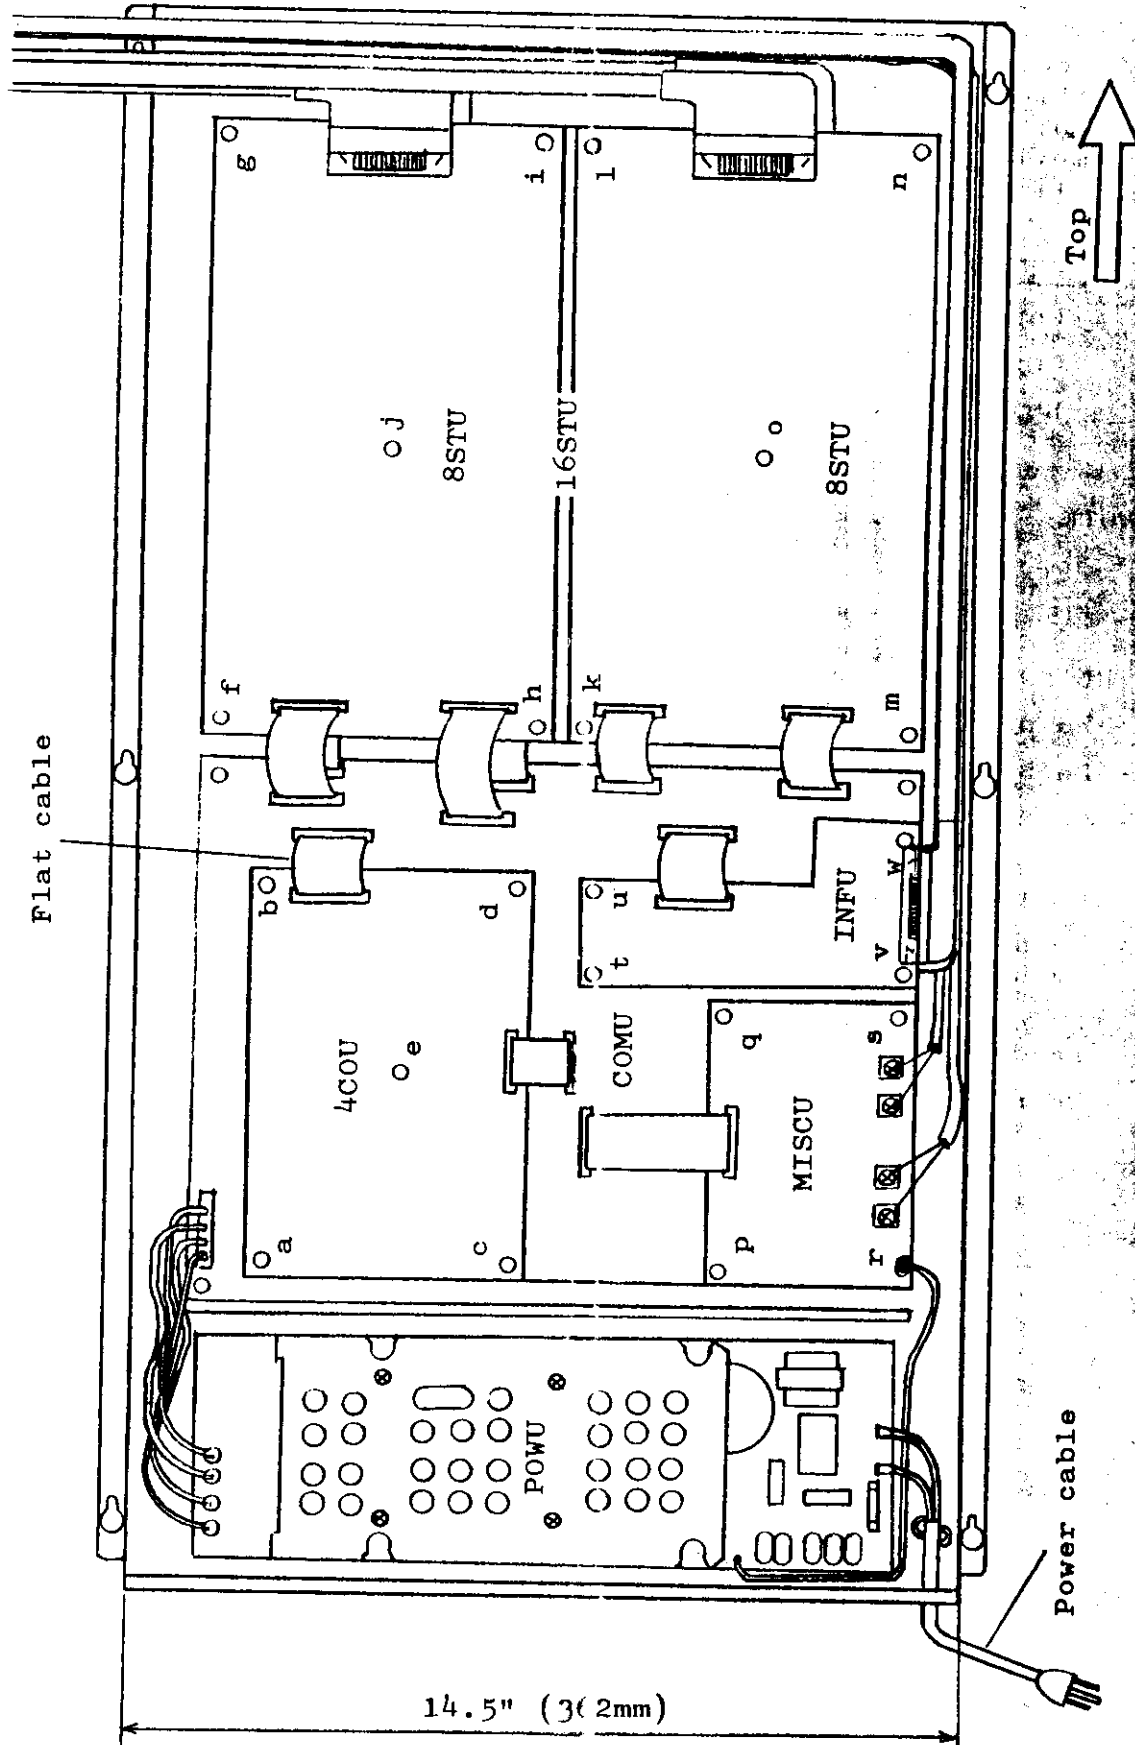

Fig. 3 Circuit Card Installation
3	Holding the circuit card by edges of the card, install it in the assigned position in the KSU cabinet. Refer to Fig.3.
| 2 | Insert five(5) LCBS-16N spacers into the appropriate holes a, b, c, d and e through the COMU card (Fig.3). |
| 5 | Mount the 4COU card in its position as shown in Fig.3 and secure by above spacers. |
| 2 | Insert five(5) stand-offs into the appropriate holes, f, g, h, i and j through the 16STU card (Fig.3). |
| 4 | Mount the 8STU card in its position as shown in Fig.3 and fasten it with M3x6S screws provided. |
| 1 | Insert five(5) stand-offs into the appropriate holes, k, l, m, n and o through the 16STU card (Fig.3). |
| 3 | Mount the 8STU card in its position as shown in Fig.3 and fasten it with M3x6S screws provided. |
2	Insert four (4) LCBS-16N spacers into the appropriate holes, p,q,r and s on the COMU card (Fig.3).
5. Mount the MISCOU card in its position as shown in Figure 3 and secure by four spacers stated in STEP 2 above.
6. Insert the other end of the flat cable into the connector "CNG" on the COMU card (Fig.3).
2	Insert four(4) stand-offs into the appropriate holes t, u, v and w through the COMU card (Fig.3).
4	Mount the DB INFU card in its position as shown in Fig:3 and secure by above stand-offs.